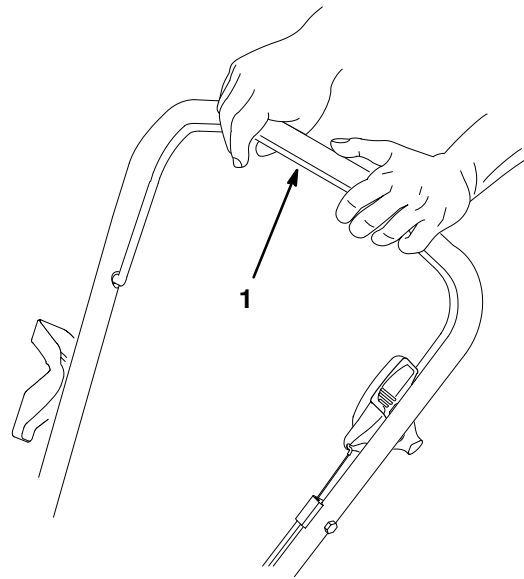

Figure 16
4. Squeeze control bar to handle (Fig. 16).